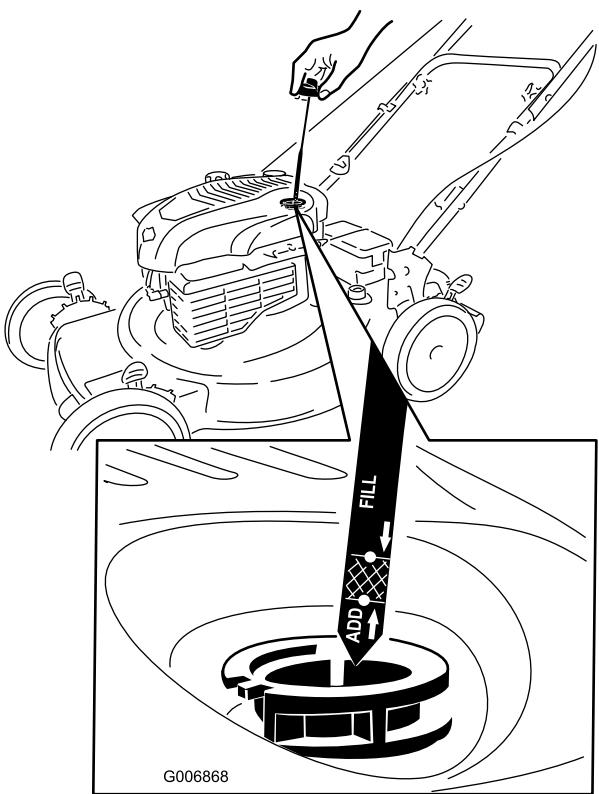

Figure 26
2. Retirez la jauge (Figure 26).